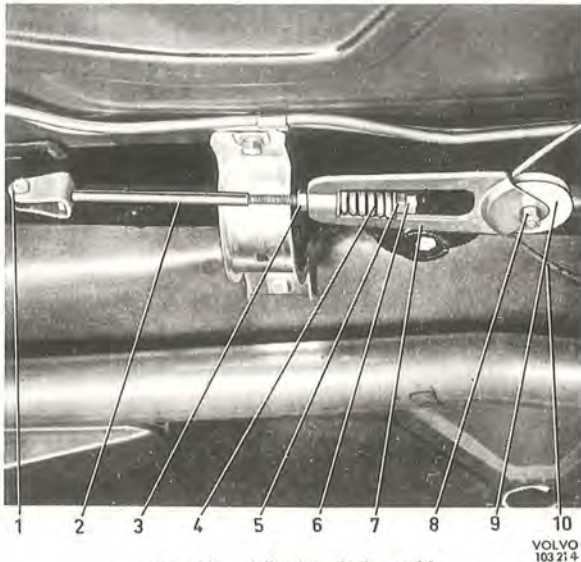

Fig. 5-81. Adjusting device cable
cable should be tensioned. This is done by loosening the locknuts and screwing in the pulley on the pull rod, see Fig. 5-81. After adjusting, tighten the locknuts. Check that there is approximately the same braking effect on both rear wheels.
3. Remove the bolt (8, Fig. 5-81) and then the wheel (9) from the pulley (7).
1. If new linings or drums are to be fitted, slacken the pulley (7, Fig. 5-81) to remove tension in the cable.